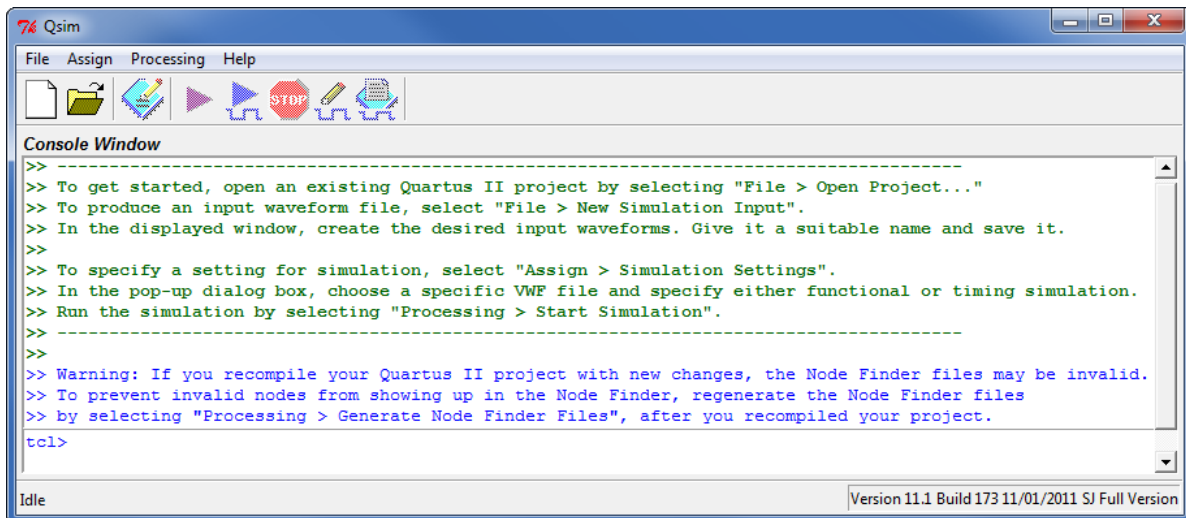

Figure 28. The QSim Window.
1. Select **Start > All Programs > Altera > University Program > Simulation Tools > QSim** to open the QSim tools, which will display the window in Figure 28.